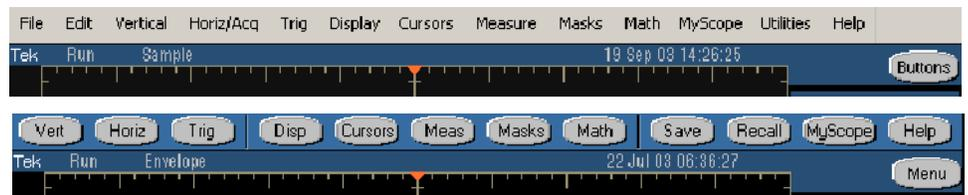

Figure 3: Mask menu and button
4. Verify that the application(s) you purchased and installed appear on the menu. Figure 3 shows a sample list of applications.
3. Press the Mask button (see Figure 3) to open the Mask control window (half screen).